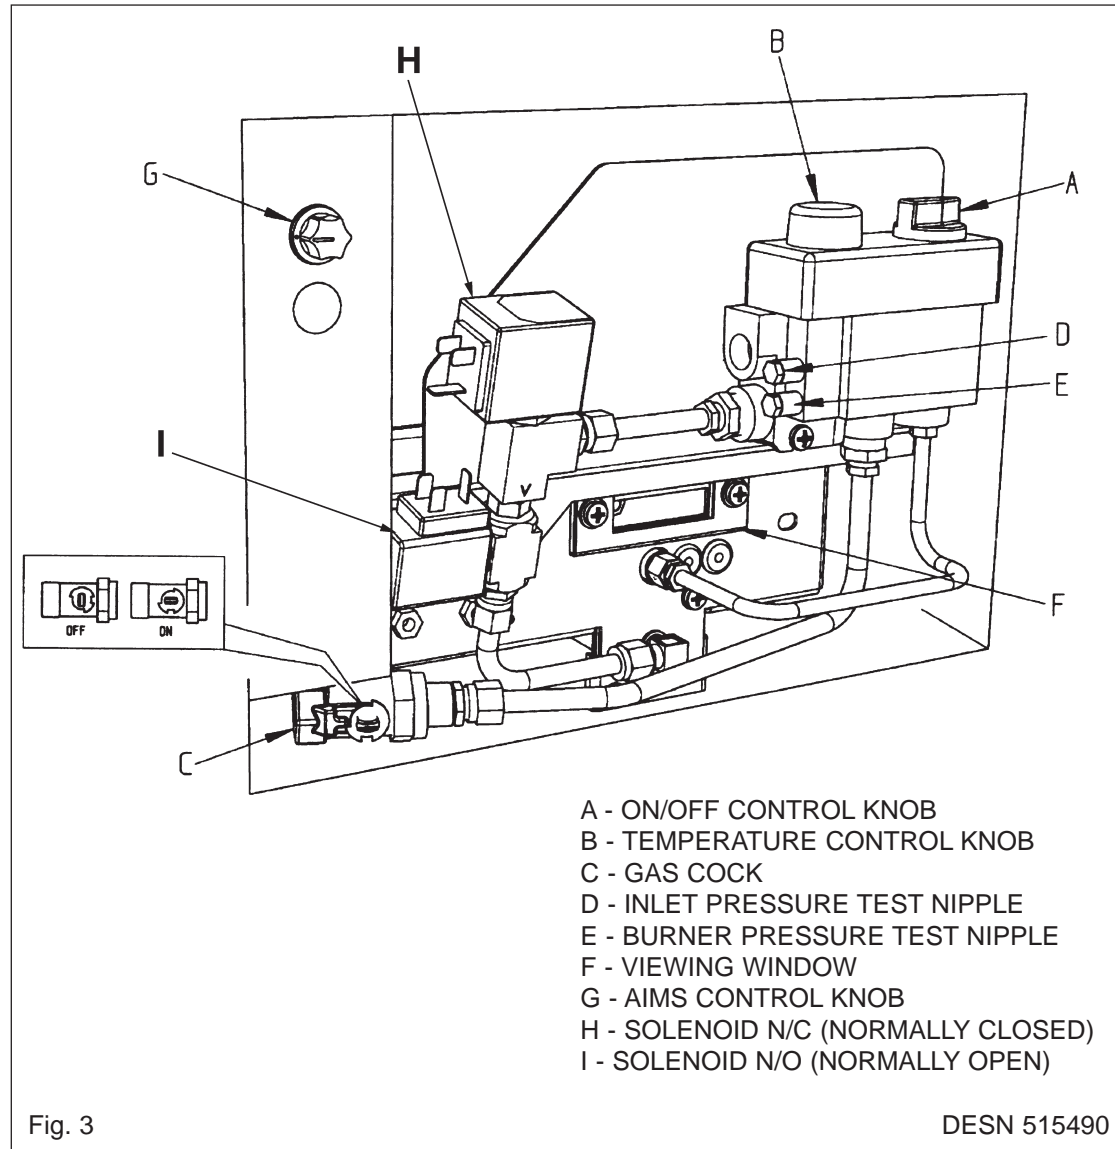

Fig. 3
**CAUTION: BEFORE LIGHTING: ENSURE KNOB (A) IS IN THE OFF POSITION (SEE FIG. 5). ALSO ENSURE GAS SUPPLY TO COOKER IS ON, AND THE SERVICE GAS COCK (C) IS IN THE ON POSITION (SEE FIG. 3), AND THE ELECTRICAL SUPPLY TO THE AGA IS SWITCHED ON.**